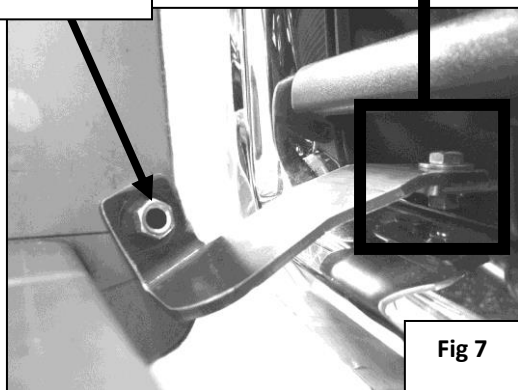

Fig 7
6. Locate passenger side Top Bracket and attach it to already installed Top Support Bracket using the included (1) 8mm x 20mm Hex Head Bolt, (1) 8mm Lock Washer, and (1) 8mm Flat Washer (**Fig 7**).